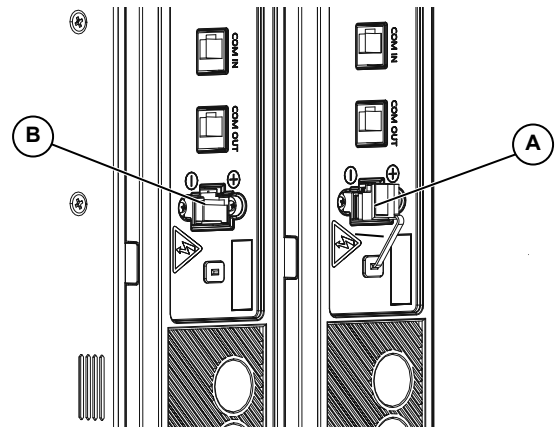

Figure 4-20. Power Cable Ports
1. See **Figure 4-20**. Remove gray rubber cap (A) from each module power port.
2. Plug black power cable connectors into battery module power ports (B).